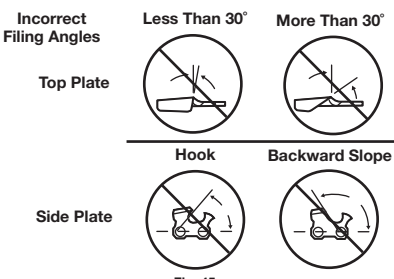

Fig. 45
- **INCORRECT (LESS THAN 30°)** – For cross cutting (Fig. 45).
- **INCORRECT (HOOK)** – This causes the chain to "grab" and dull quickly, increasing the potential for kickback. A hook is caused by using a file with too small a diameter or a file held too low (Fig. 45).